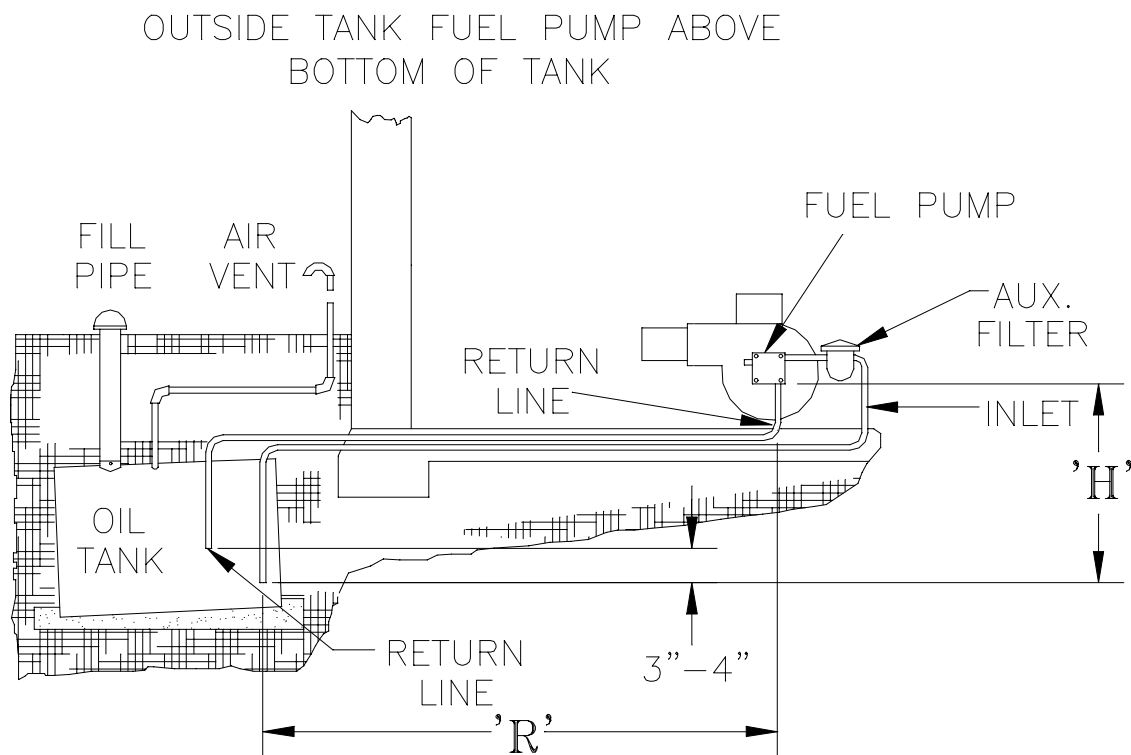

Figure 17: Two-Pipe Installation
1. For two-pipe systems where more lift is required, the two-stage fuel unit is recommended. Table 2 (single-stage) and Table 3 (two-stage) show allowable lift and lengths of 3/8-inch and 1/2-inch OD tubing for both suction and return lines. Refer to Figure 17.